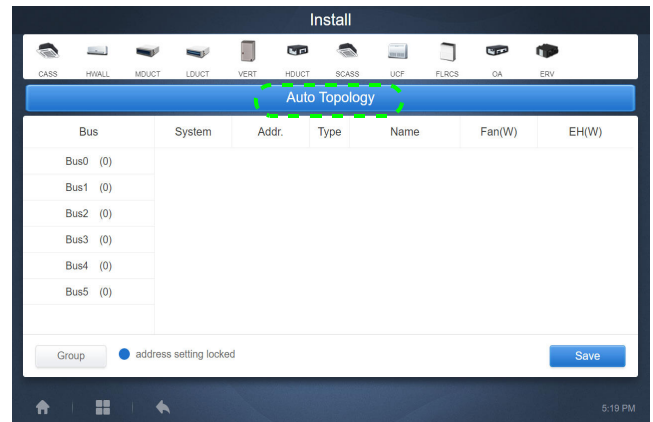

Fig. 15 — Auto Topology
2. Click the [Auto Topology] button. See Figure 15.